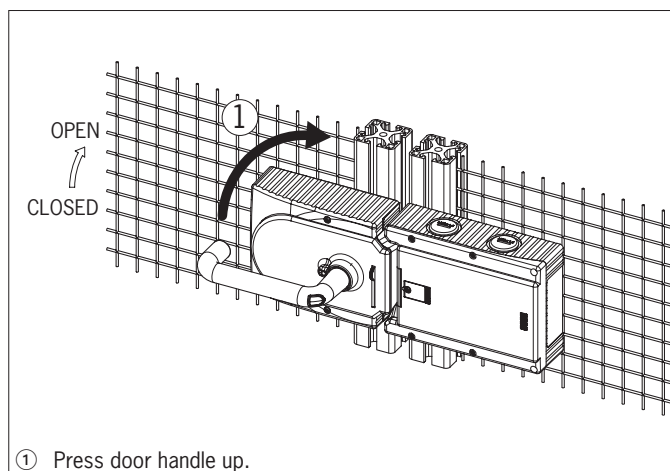
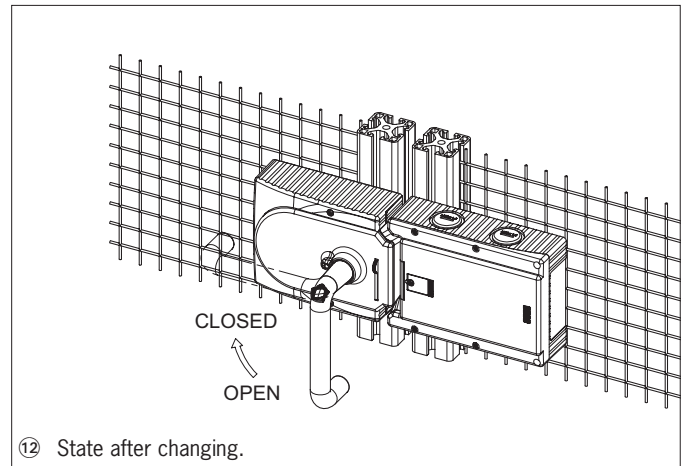

Figure 10: Changing actuating direction, step ①
Figure 15: Changing actuating direction, final state
For mounting steps, see *Figure 9* and *Figure 10* to *Figure 15*.
- The system is mounted the other way around for doors hinged on the left. In other words, the guard opens by pressing up the door handle (see Figure 10). For this reason, the actuating direction of the door handle must be changed (see Figure 10 to Figure 15).